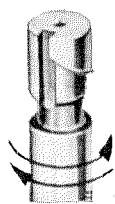

Fig. 07-4/2
The discharge rate is changed by turning the pump plunger (9). A pinion (12) is clamped to the upper end of the control sleeve (13) which houses the pump cylinder. In the lower part of the control sleeve (13) are two longitudinal slots (Fig. 07-4/1), which guide the piston lugs (14). The control rod (11) is geared to the pinion (12). The pump plungers can therefore be turned with the control rod; the discharge rate of the pump can thus be infinitely varied from zero to maximum.